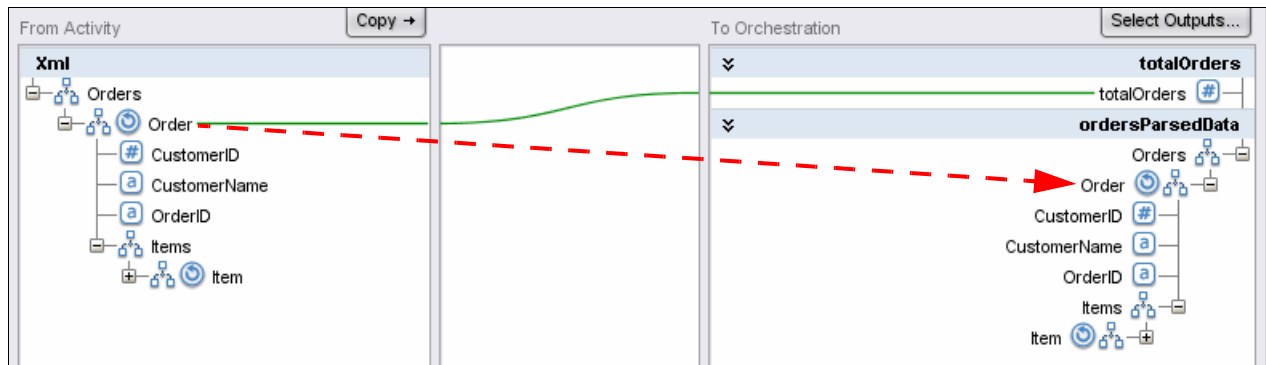

Figure 12-48 Dragging Order to ordersParsedData
9. Drag **Orders** → **Order** on the left (recurring element) to **ordersParsedData** → **Orders** → **Order** (recurring element) on the right side, as illustrated in Figure 12-48 on page 495.